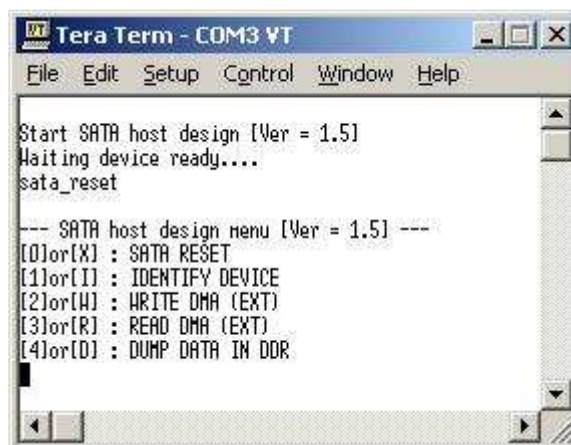

Figure 4 Main Menu of host demo
- At serial console on PC, main menu will be displayed as shown in Figure 4. Then, user can execute each command operation. Please check serial-cable connection if this menu is not displayed on console.